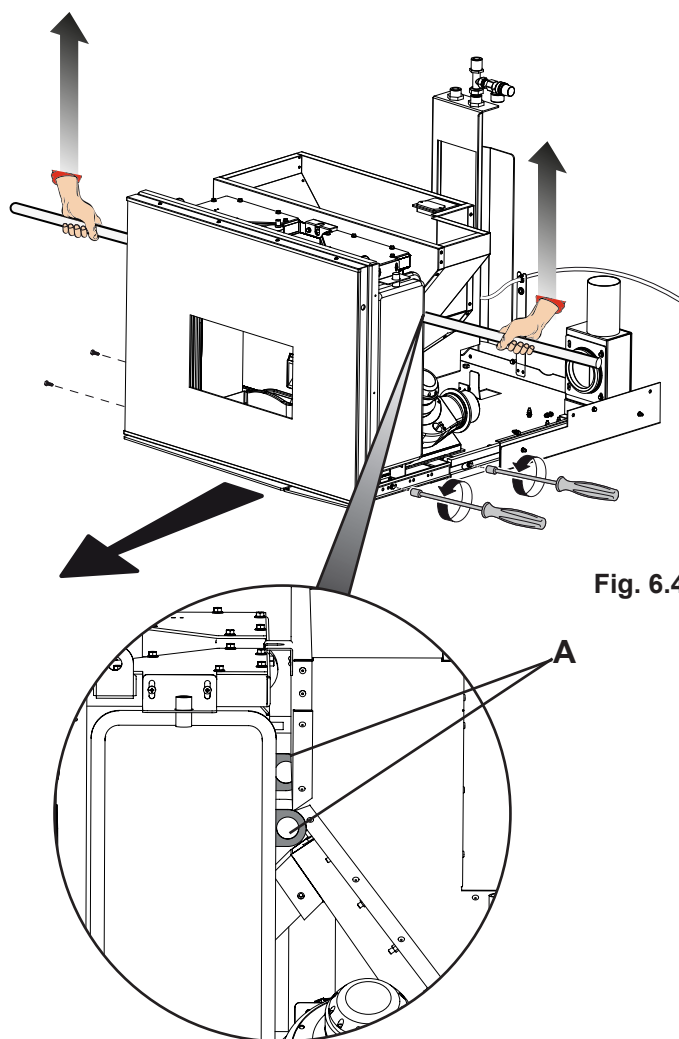

Fig. 6.4
- support the stove with a metal bar (1/2" x 2 m) fitted into the holes behind the boiler (A - fig.6.4)
- undo the four bolts (two on each side) securing the stove to its sliding rails (fig.6.4)